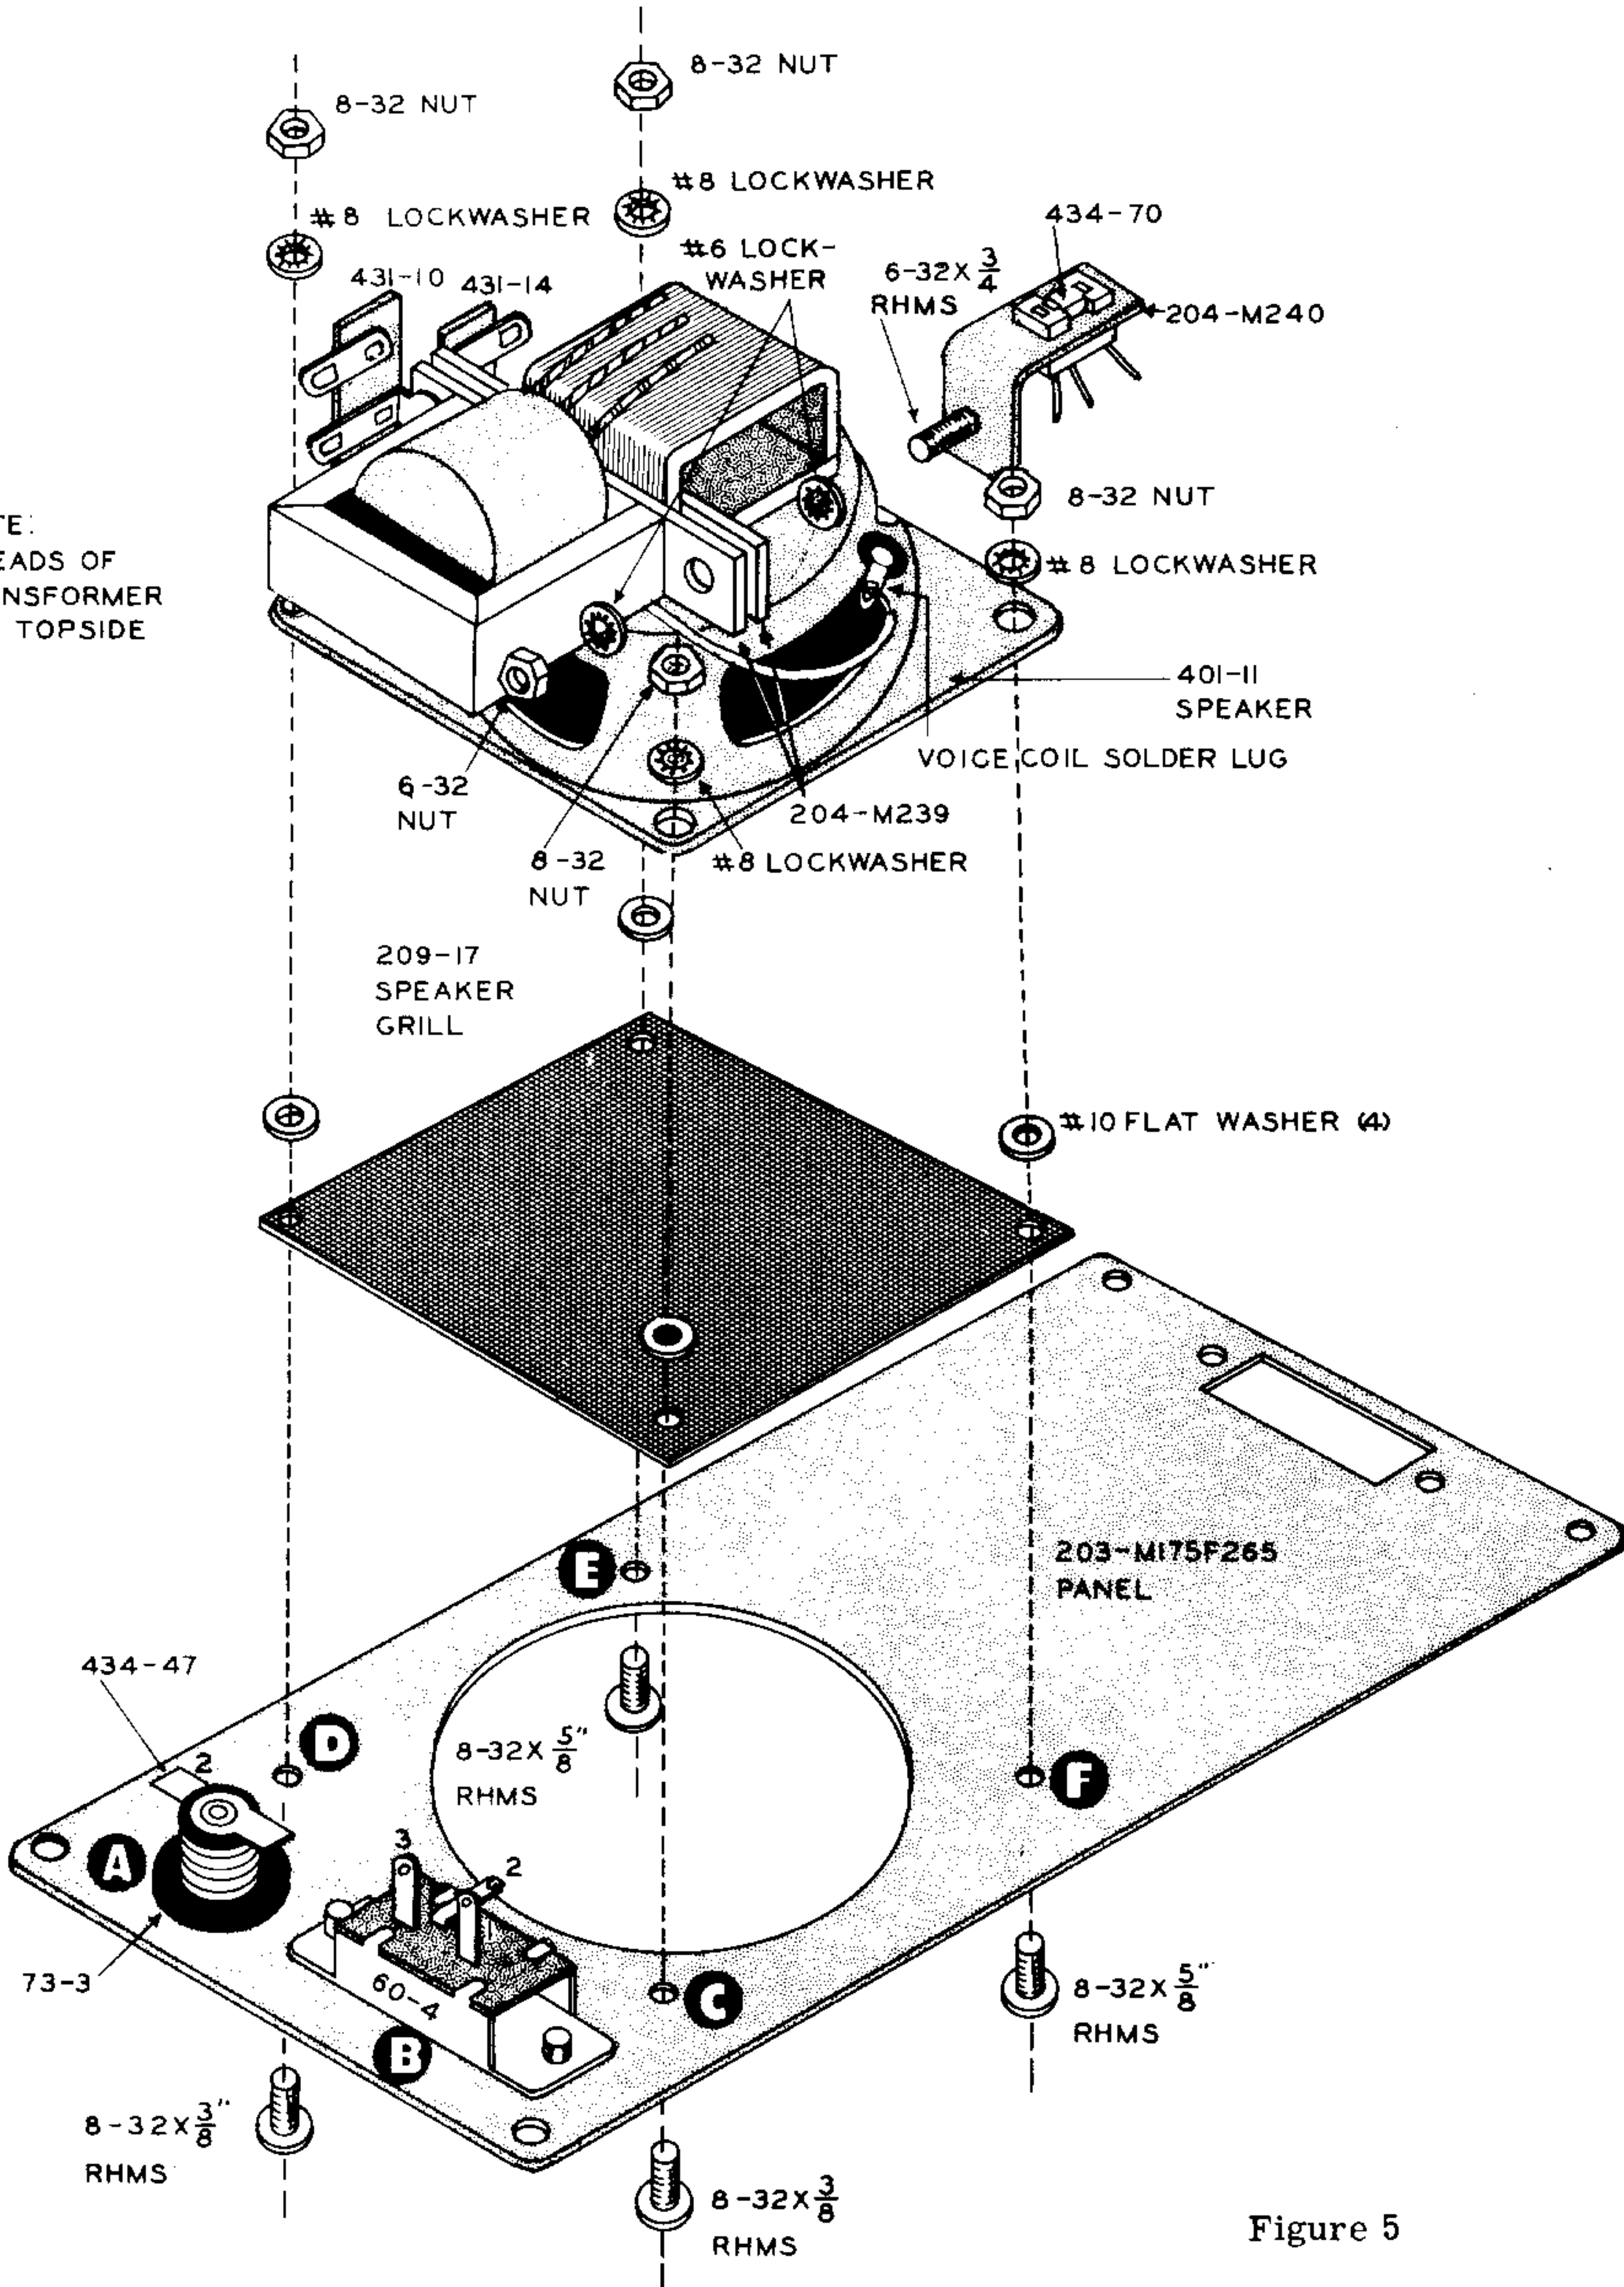

Figure 5
- ( ) Refer to Figure 5 on Page 8 and with the yellow lead on one side of the speaker and the black lead on the other, insert the preceding assembly through the speaker frame on the side away from the voice coil solder lugs. Insert the 6-32 x 3/4" screw (which mounts the transistor socket assembly) through a #6 lockwasher, through the two bracket ends, the transformer foot, a #6 lockwasher, and secure with a 6-32 nut. Do not tighten screws until the center of the transformer is aligned with the center of the speaker. Then, use a thin screwdriver to do the tightening while holding the nut (to avoid damaging the transistor socket).
- ( ) Bend the center lug of the SPDT switch down flat and toward the large speaker hole. The other two lugs should be bent outward slightly to clear the output transformer which is mounted in the following steps. Refer to Figure 5.
- ( ) Place the 2 1/2" speaker grill over the large hole in the panel on the panel rear side (with the fuzzy side against the panel). See Figure 5. Insert an 8-32 x 3/8" RHMS through hole C in the panel (the hole next to the switch), through the grill, a flat washer, the speaker frame, a #8 lockwasher and secure with an 8-32 nut. Do not tighten until all the screws are in and the speaker is aligned straight and even with the panel.